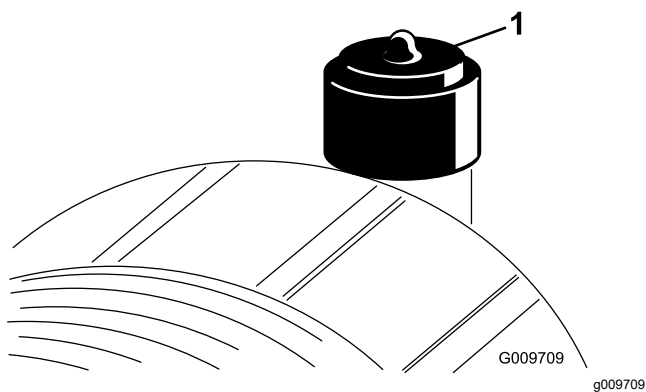

Figure 90
Service the air-cleaner filter only when the service indicator requires it (Figure 90). Changing the air filter before it is necessary only increases the chance of dirt entering the engine when you remove the filter.
2. Reset the indicator (Figure 90) if it shows red.